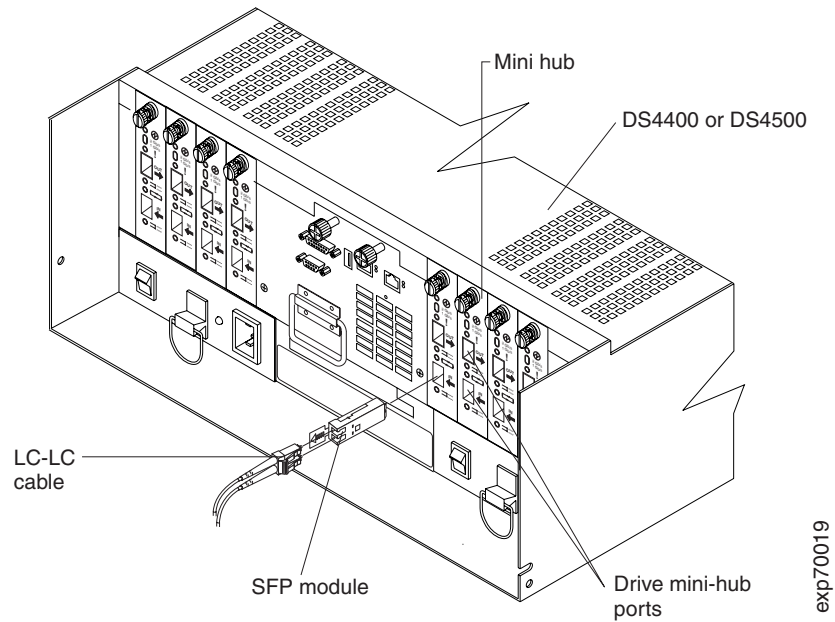

Figure 45. Installing an SFP module and LC-LC cable in a DS4400 or DS4500
2. Connect an LC-LC fiber-optic cable into the SFP module, as shown in Figure 45 on page 61.